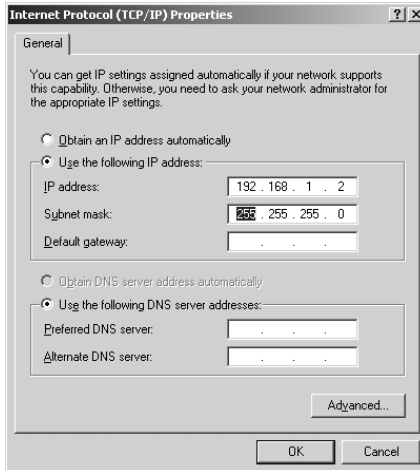

Figure 9: Internet Protocol (TCP/IP) Properties Window
5. Select **Use the following IP Address1**, and fill in the details as shown in Figure 9.